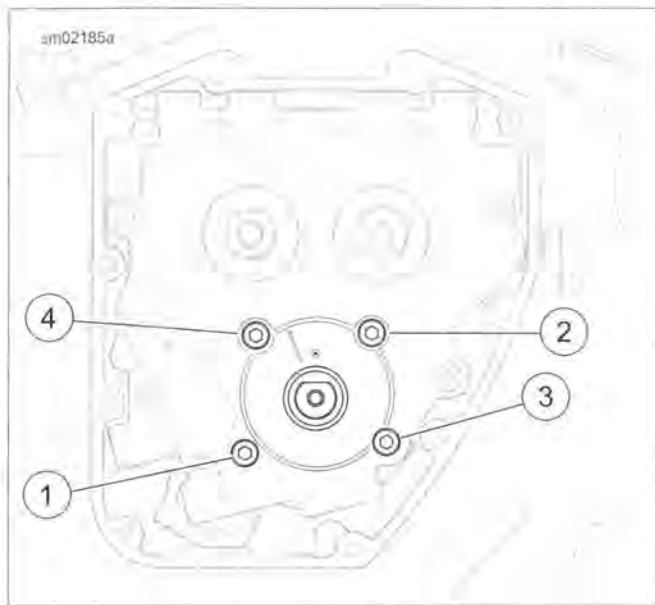

Figure 3-102. Oil Pump Torque Sequence
7. See Figure 3-102. Secure oil pump.